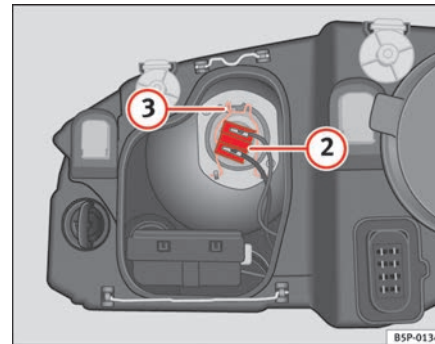

Fig. 179 Dipped head-lights
- Remove the connector ⇒ page 254, fig. 179 ② from the bulb.
- Disengage the retainer spring ⇒ page 254, fig. 179 ③ pressing inwards to the right.